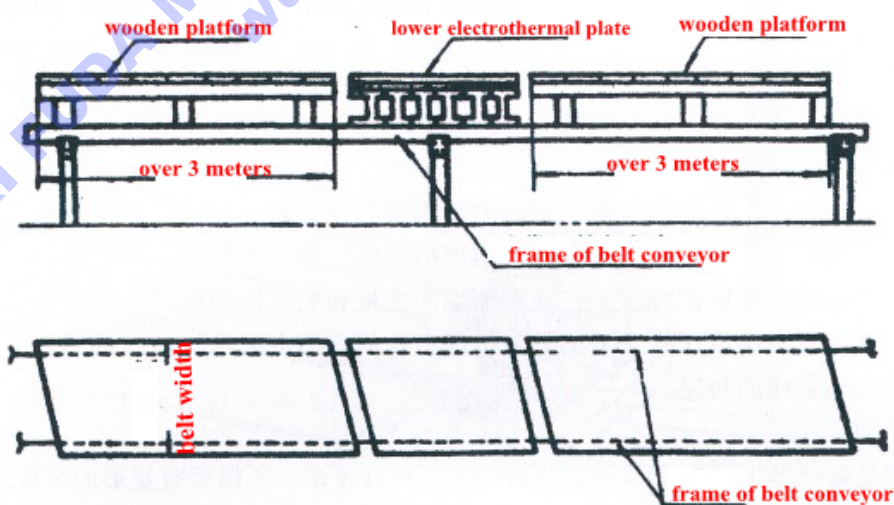

Fig. 4
4. And before assembly, some upper belt conveyor idlers needs to be removed. And there need to be work platform set up by square timber as figure 4. In case of vulcanized bonding outdoors, a strong rain-proof shed should be set up by canvas around the work platform.